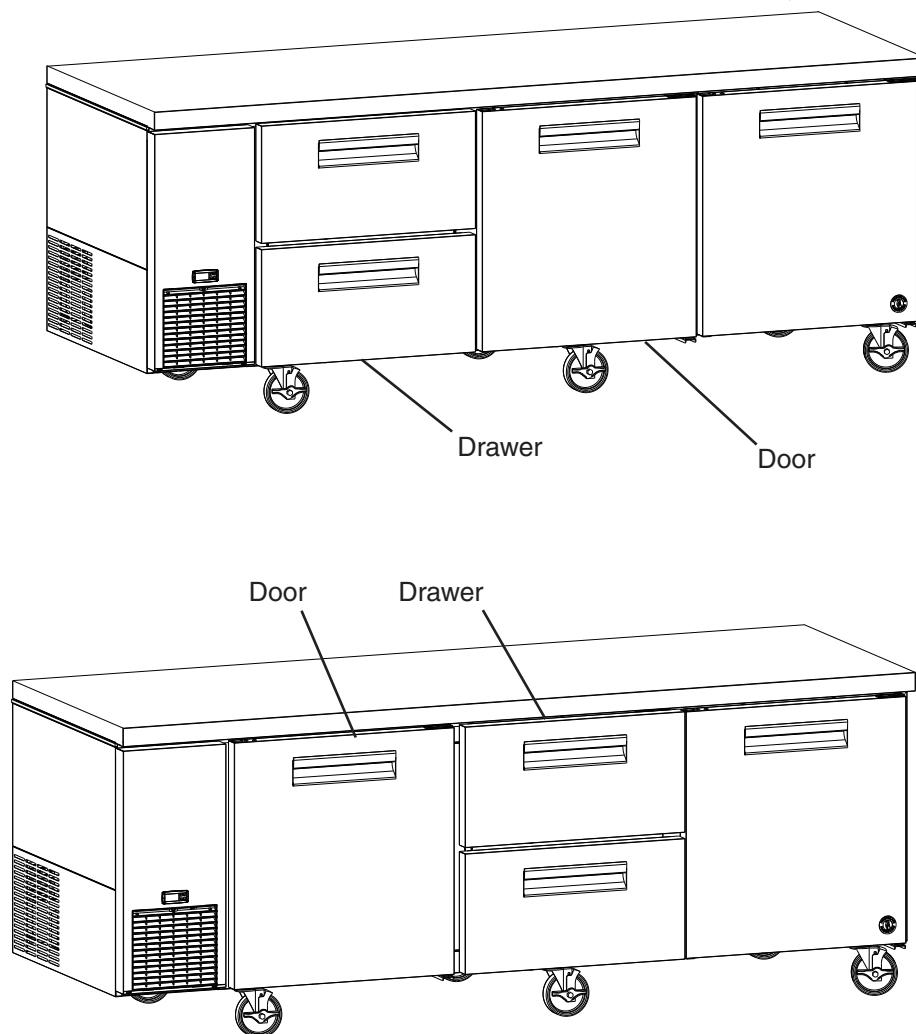

Fig. 31
- 27) Place the lower drawer in the lower drawer slides and the upper drawer in the upper drawer slides. See Fig. 31. **WARNING! Be sure to close the safety clips after reinstalling the drawer.**